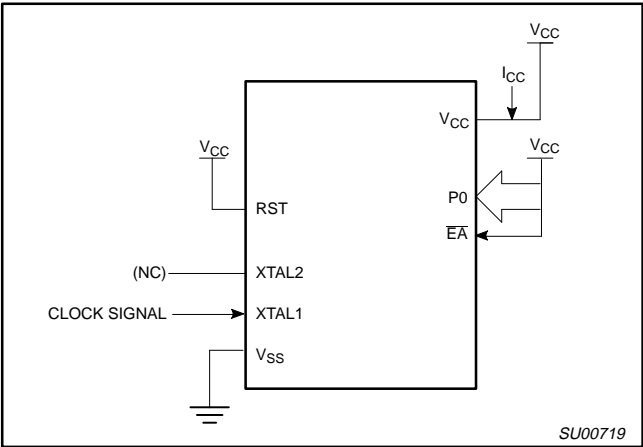

Figure 9.  $I_{CC}$  Test Condition, Active Mode
- See Figures 9 through 12 for  $I_{CC}$  test conditions.